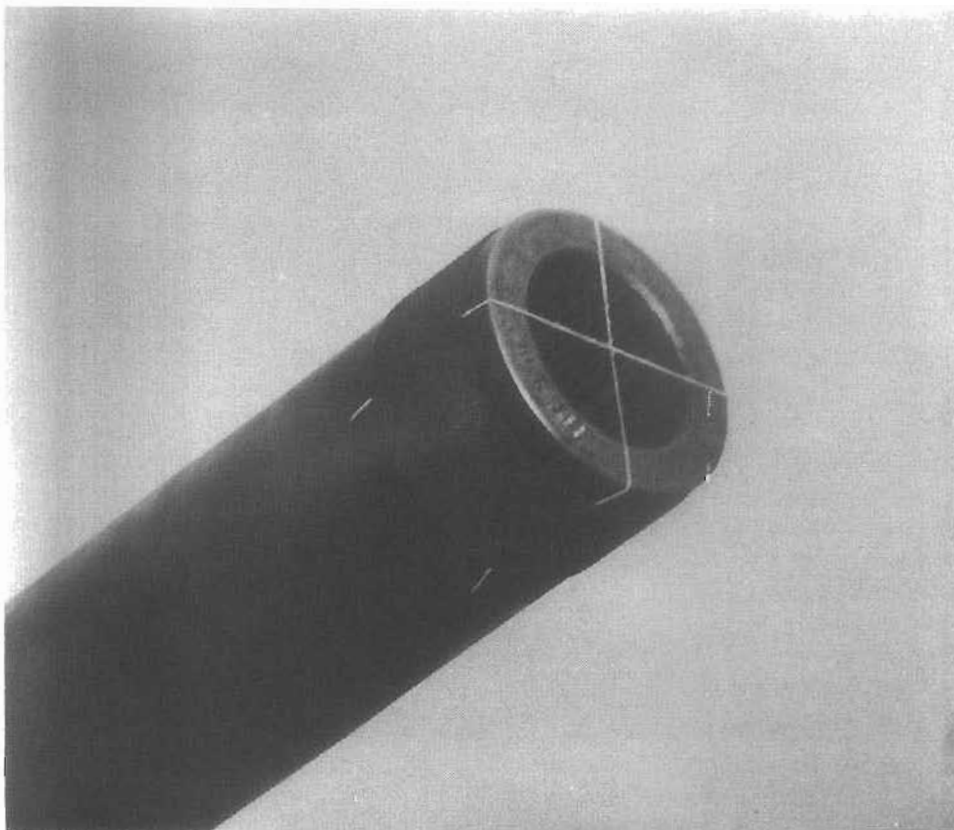

Figure 47
(2) Muzzle boresight--black linen thread and web belt, (fig. 47).